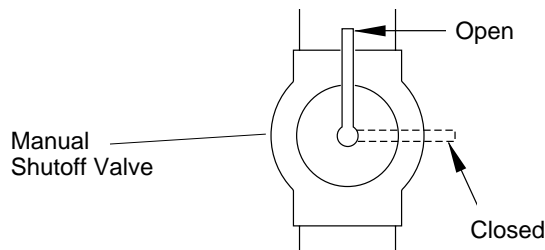

Figure 22 - Manual Shutoff Valve
1. Close manual shutoff valve (see Figure 22).
1. Open manual shutoff valve (see Figure 22).